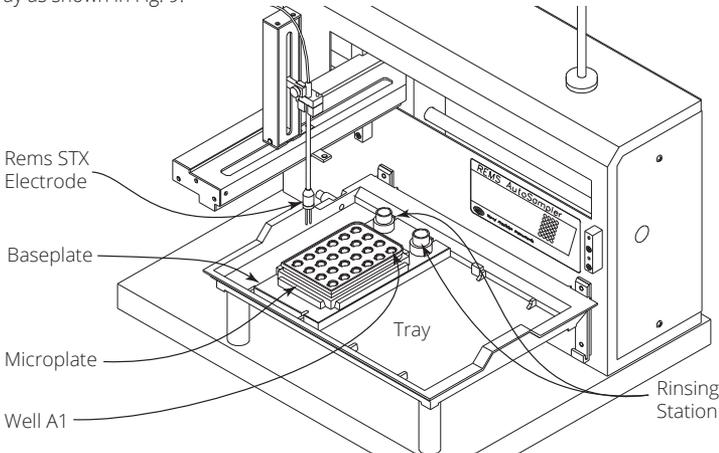

Fig. 9 — REMS AutoSampler with baseplate and REMS electrode installed
The well plate holder secures the well plate in position and has two rinsing stations. It has been designed to allow for easy insertion of the well plate. Orient the well plate holder so that the end with the rinsing station is nearest to the front panel of the REMS. The slots on the well plate holder fit into the locator tabs on the tray as shown in Fig. 9.
- Ensure that the microplate is properly located within the baseplate and is not covered. Well A1 should be located in the far right corner. If it is loose, adjust the baseplate to secure the microplate. The rinsing stations are located on the top corners of the baseplate chamber as seen in Fig. 9.